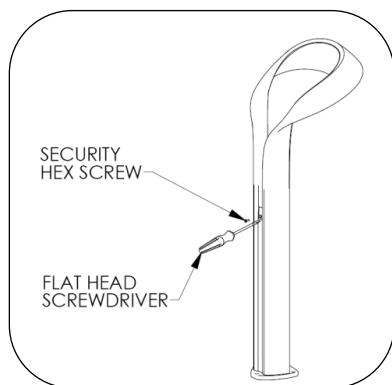

Fig. 6 – Remove access panel
1. Remove security screw as shown in Fig. 6. Security hex key is included.
2. Slide access panel cover up 1/2". If necessary, use a flat head screwdriver as shown in Fig. 6 to pry up the panel. Protect the powdercoat finish.